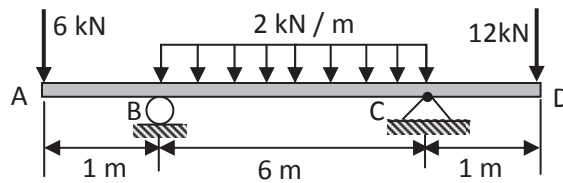

FIG. 1
1. A beam subjected to the loading is shown in Fig.1.